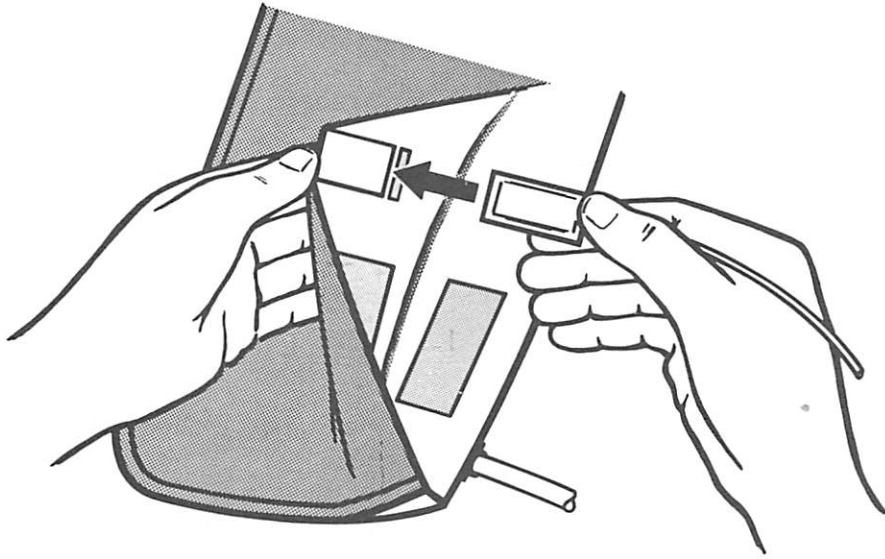

Figure 2-2. Inserting Microphone Into Cuff
- c. To install the microphone, peel the black nylon cover away from the cuff body. This cover is sewn on three sides and is held against the cuff body with Velcro*. Fully insert the microphone into the small pocket on the inside of the cover. The Velcro on the microphone bag should be attached to the Velcro provided at the pocket. This secures the microphone to the cuff and ensures correct orientation of the microphone in the pocket (see figure 2-2).
- d. The excess microphone cord can be loosely placed inside the pocket formed between the cover and the cuff body (see figure 2-2). Reseal the Velcro to close the cover over the excess cord.